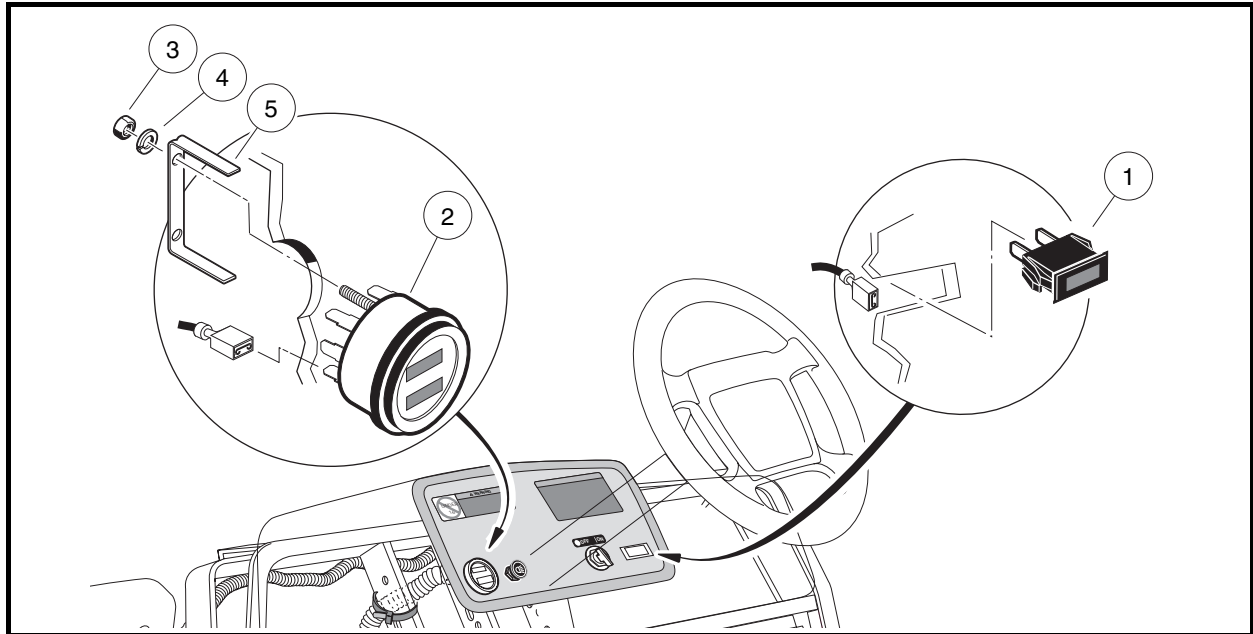

Figure 12-23 Fuel Gauge/Hour Meter and Low Oil Warning Light Installation
4. Disconnect the wires from the low oil warning light (1) (**Figure 12-23, Page 12-21**). Do not allow wires to touch.
1. Push a new unit into hole in dash until plastic tabs engage dash (**Figure 12-23, Page 12-21**).
4. Disconnect the wires from the fuel gauge/hour meter (2) (**Figure 12-23, Page 12-21**). Do not allow wires to touch.
5. Remove the two hex nuts (3) and lockwashers (4) from the threaded studs on the back of the gauge. Remove the mounting bracket (5) from the back side of the gauge/meter and remove from the dash.
1. Install a new gauge/meter into hole in dash until flange seats against dash (**Figure 12-23, Page 12-21**).